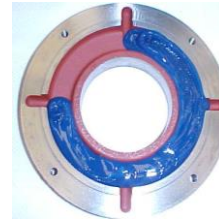

Figure 7.10: External bearing cap
- Fill up to  $\frac{3}{4}$  of the inner and outer bearing cap deposits with the recommended grease (Figure 7.10) and lubricate the rolling bearing with enough grease before assembling it;